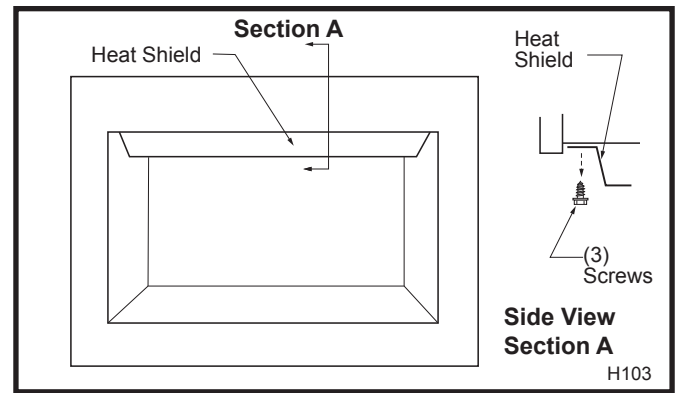

Fig. 92 Heat shield.
2. Remove three (3) screws securing heat shield to combustion dome. (Fig. 92)